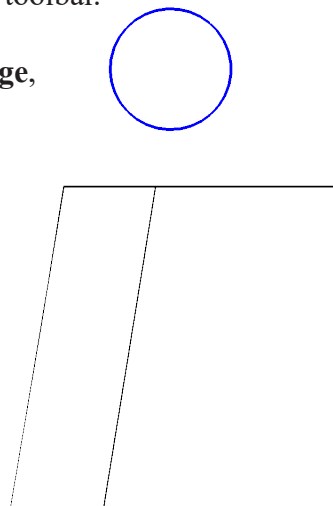
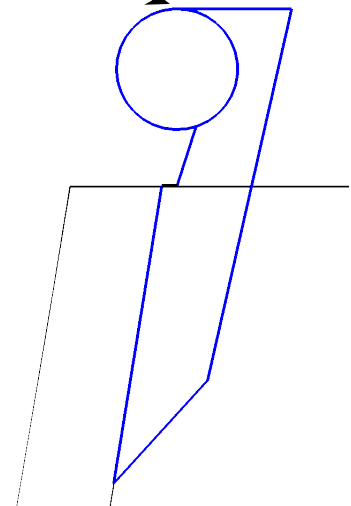

Fig. 72
Fig. 73
Step 5. Click **Circle**  (S) on the Sketch toolbar.
Step 6. Sketch **circle above front inside edge**, **Fig. 72**.
Step 7. Click **Line**  (L) on the Sketch toolbar.
Step 8. Sketch **6 lines**, **Fig. 73**. Start at top quadrant point  of circle with a horizontal line. End with a non tangent line to circle.